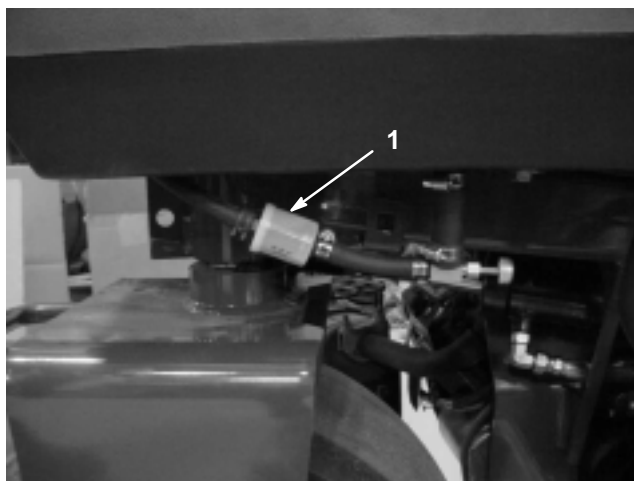

Figure 49
An in-line filter is incorporated into the fuel line between the fuel tank and carburetor (Fig. 49). Replace the filter every 800 hours or sooner if the fuel flow is restricted. Be sure the arrow on the filter is pointing away from the fuel tank.
- Close the fuel shut off valve, loosen the hose clamp (Fig. 49) on the carburetor side of filter and remove the fuel line from the filter.
- Place a drain pan under the filter, loosen the remaining hose clamp, and remove the filter (Fig. 49).